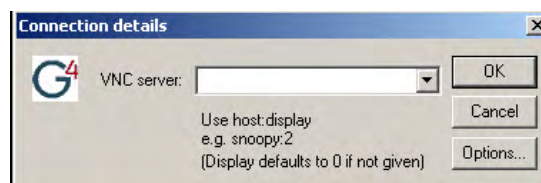

FIG. 96 Connection Details dialog
8. In the *Connection Details* dialog box (FIG. 96), enter the VNC Server IP Address.